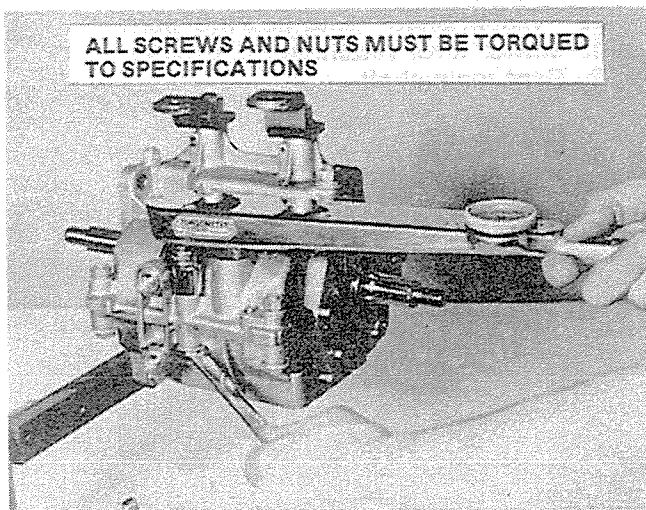

FIGURE 19
6. Install the remaining retaining screws and nuts. Snug up all screws and nuts using a criss-cross pattern starting with the screws next to the locating pins. Use the same procedure for tightening the screws to the recommended torque specifications. Figure 19.